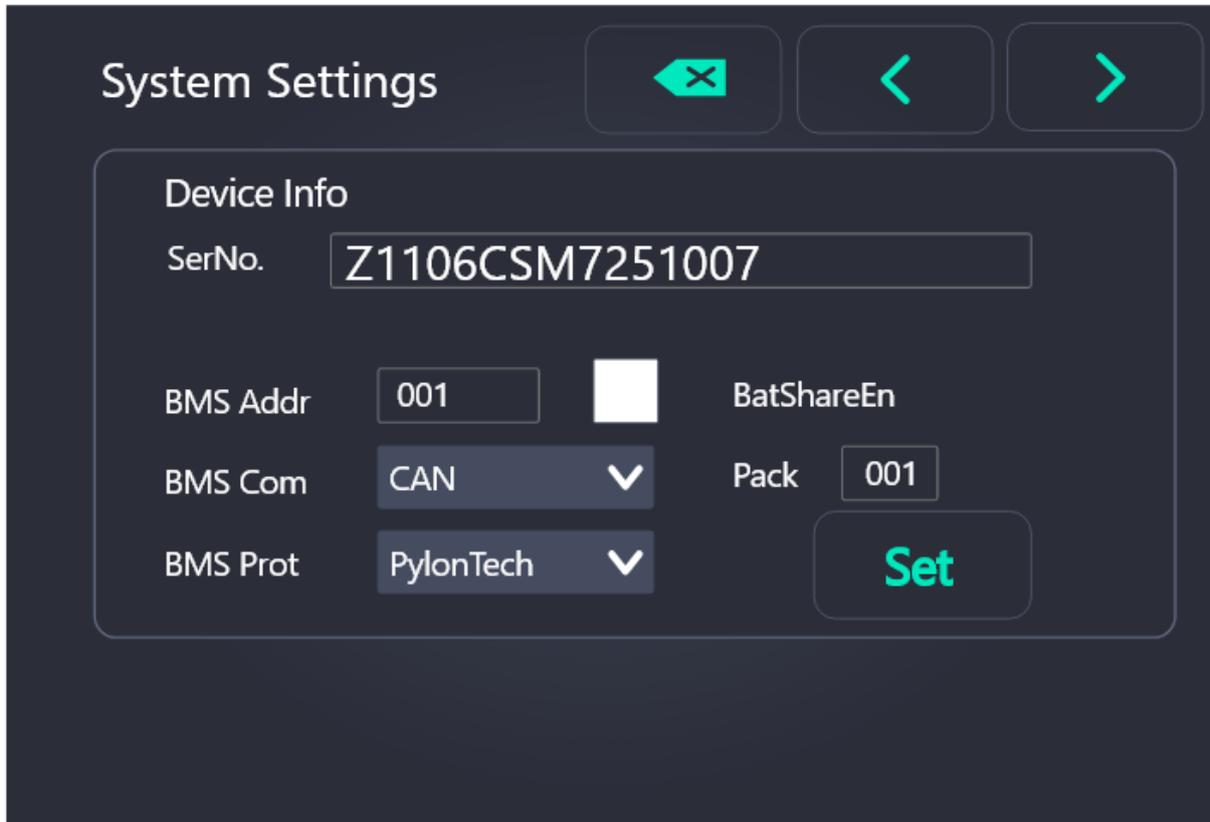

Figure 3.23-4 System Setting Interface
- **CanEn**, battery CAN communication can be enabled. When selecting the battery communication mode as CAN in the system setting interface of Figure 3.23-4, please check this setting. When you want to control the lithium battery in voltage mode, you can uncheck this setting.